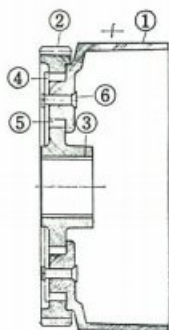

Fig. 8-18-11 Construction of clutch housing
The clutch housing complete consists of clutch housing (1), primary gear (2) primary gear housing (3) and primary gear fitting plate (4) into which dampers (5) are inserted and calked with rivets (6) as shown in fig 8-18-11.